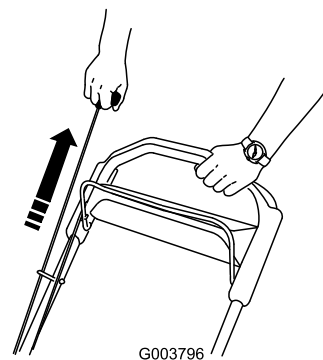

Figure 21
- Pull the recoil starter in the operating position (Figure 21).